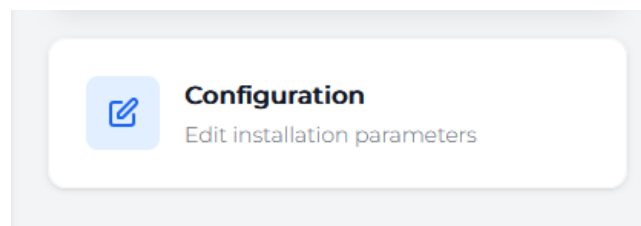

Figure 34 Configuration panel
- Click on the “Configuration” panel (see Figure 34) on the right side: